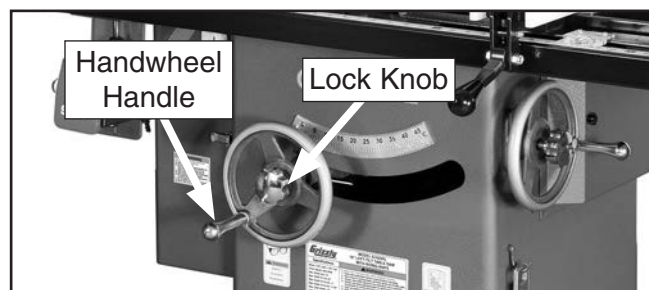

Figure 23. Lock Knobs and handles installed
17. Thread lock knob into center of handwheel and tighten, then install handwheel handle (see **Figure 23**).
18. Install remaining handwheel, lock knob, and handwheel handle (see **Figure 23**) in the same manner.